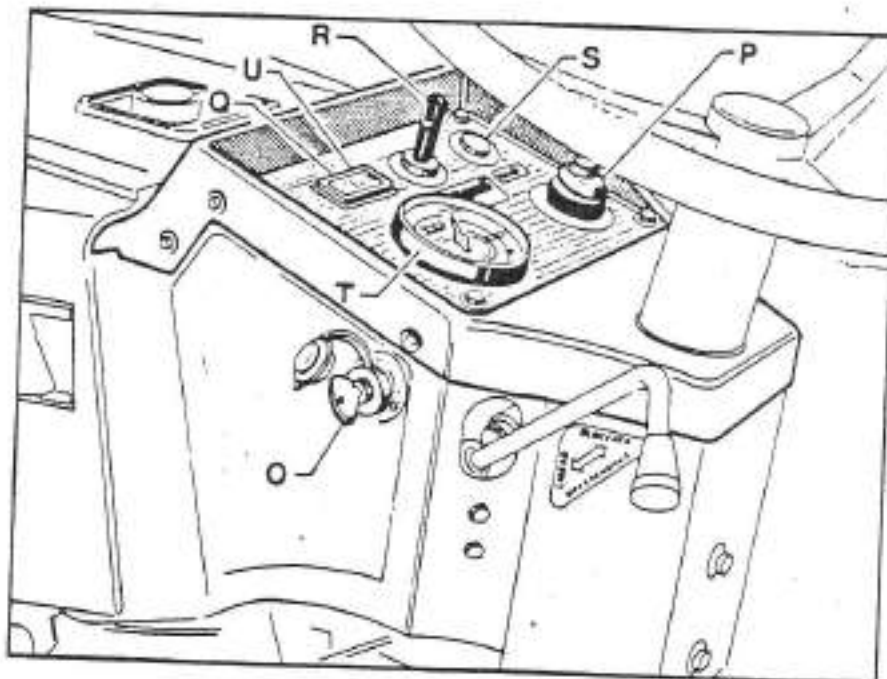

Fig. 9
**P - SWITCH FOR LIGHTS (Fig.9)**
**Q - ENGINE OIL PRESSURE WARNING LIGHT (Fig.9)**
R - DIRECTION- INDICATOR SWITCH (Fig.9)
S - DIRECTION INDICATOR WARNING LIGHT (Fig.9)
T - TRACTOMETER (Fig.9)
U - RESERVE FUEL WARNING LIGHT (Fig.9)